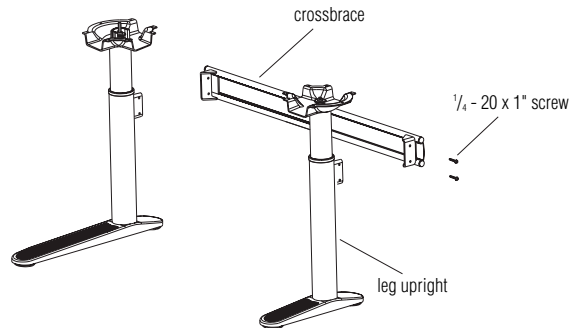

Figure 1
2. With one leg upright supported, move legs apart to attach crossbrace (Figure 1).
3. Attach the crossbrace to the leg uprights with four 1/4-20 x 1" screws (Figure 1).